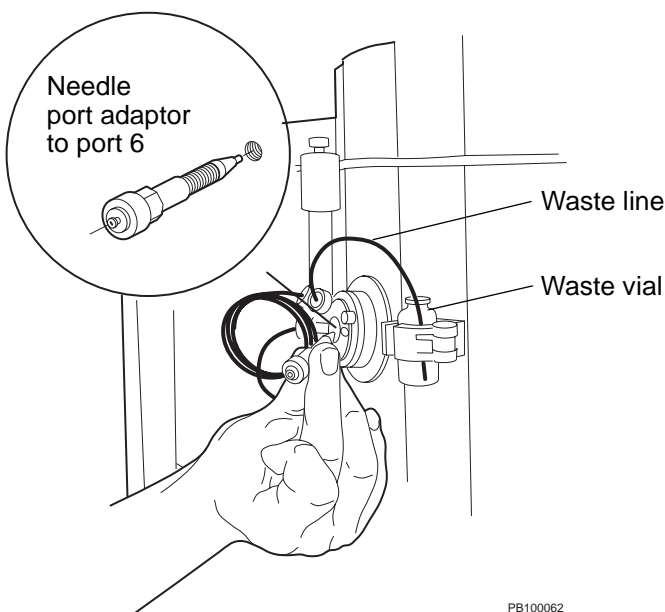

Figure 3-17 Inserting Needle Port Adaptor
3. Screw the needle port adaptor (from the startup kit) loosely into port 6 of the injection valve (Figure 3-17).